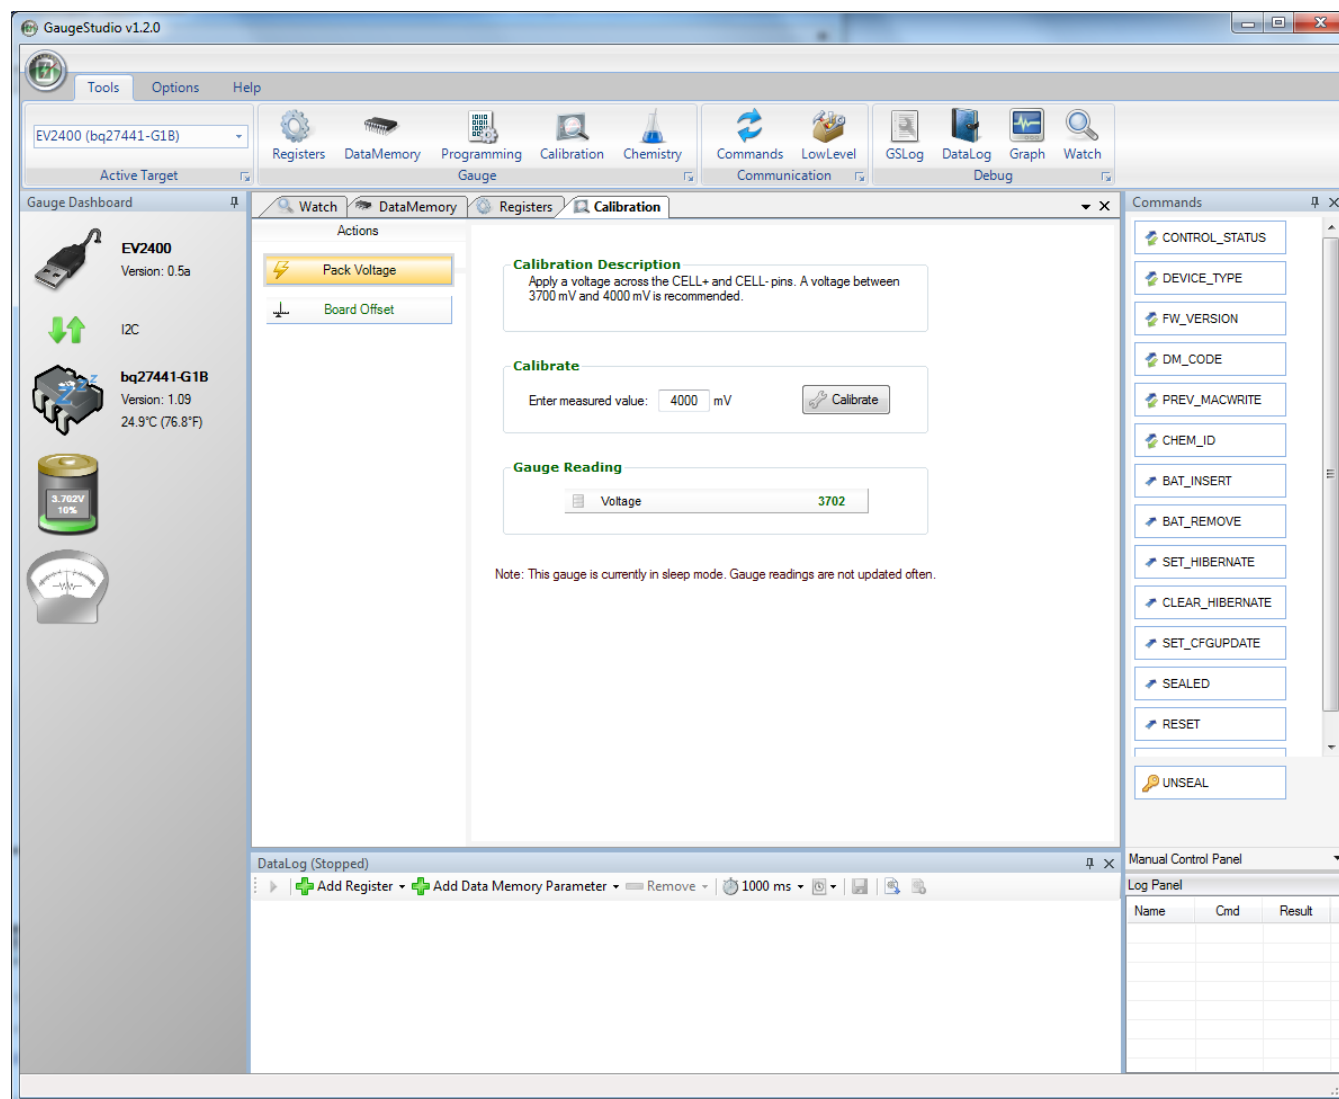

Figure 10. Calibration Screen
1. Select the types of calibration to be performed (see Figure 10).